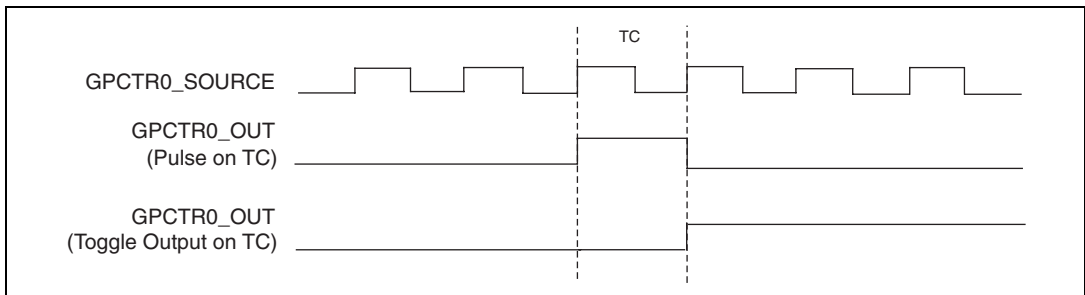

Figure 4-37. GPCTR0_OUT Signal Timing
This signal is available only as an output on the GPCTR0_OUT pin. The GPCTR0_OUT signal reflects the terminal count (TC) of general-purpose counter 0. You have two software-selectable output options—pulse on TC and toggle output polarity on TC. The output polarity is software-selectable for both options. This output is set to high impedance at startup. Figure 4-37 shows the timing of the GPCTR0_OUT signal.